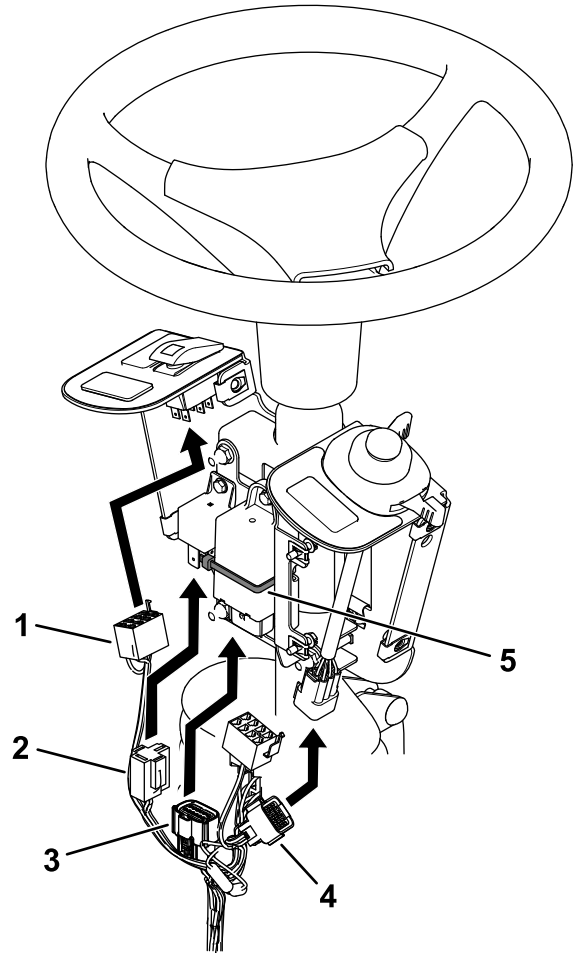

Figure 8
5. Secure the flasher using a cable tie (Figure 8).
6. Plug the harness into the rocker switch and multi-function switch (Figure 8).
7. Plug the wire harness into the relay and flasher (Figure 8).